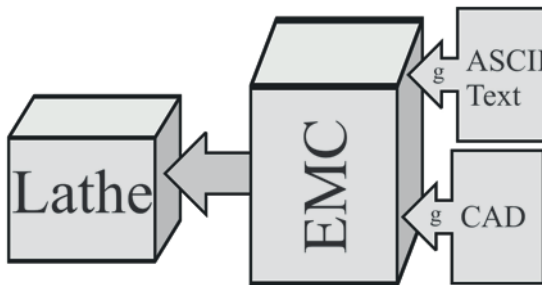

Fig. 1.1 The basic setup
One just needs to generate a simple text file including that g-code and feed it into the EMC program to start making parts (Fig. 1.1). You can do that by typing the commands in a simple text
- **Use safety glasses** (see Fig. 1.1). Chemistry goggles, which are also shown here, have the disadvantage that they may block your vision too much which again can generate a safety hazard. You need comfortable glasses and perfect vision. You need to look around. Glasses approved for metal would need to be closed all around the face (at the top, sides, and bottom) and in the U.S. they have the label **ANSI Z87** on them. Some versions additionally block UV light.